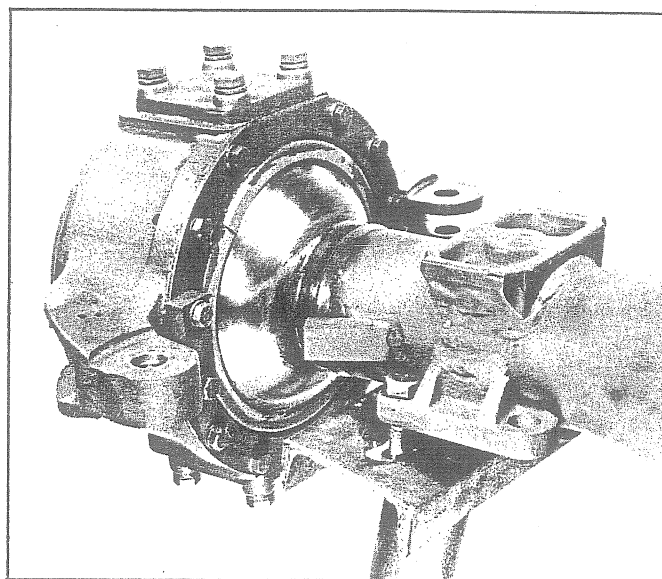

Fig. 85 - Spindle Support and Seals in Place
15. Remove seals, retainer rings and steering "stop" block from inner side of spindle support. See Fig. 85.
16. Remove upper bearing trunnion from spindle support. See Fig. 85. Then remove upper bearing.